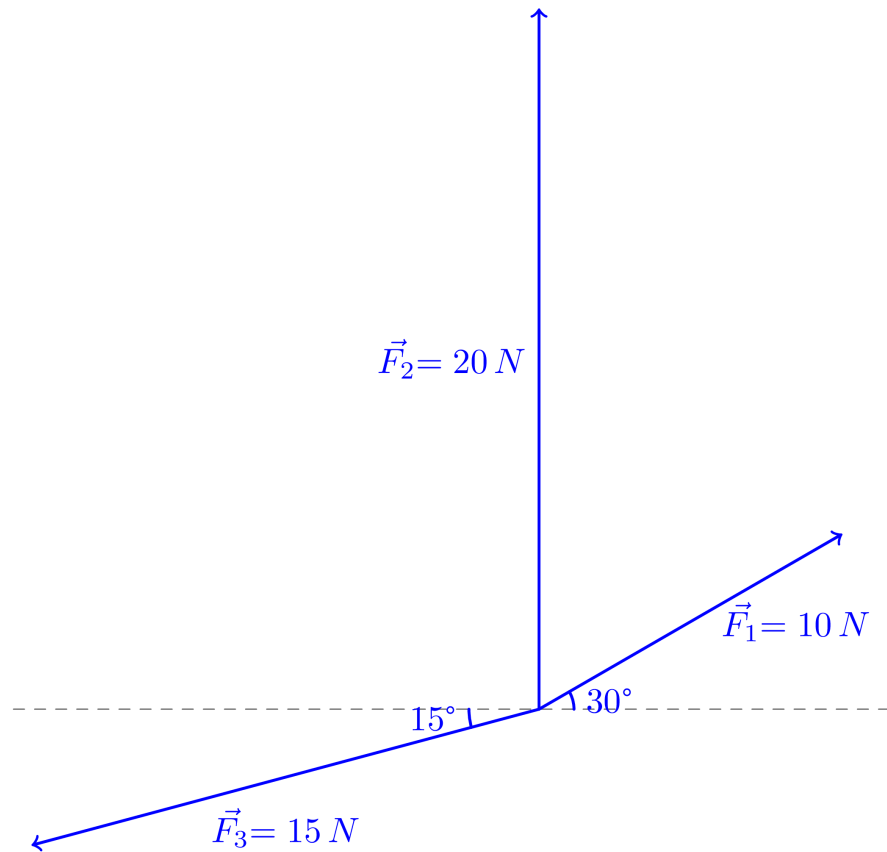

Figure 2.12: Vector polar coordinates
**Example 2.6.** Given the space diagram in Figure 2.12, estimate the resultant vector using a graphical method.